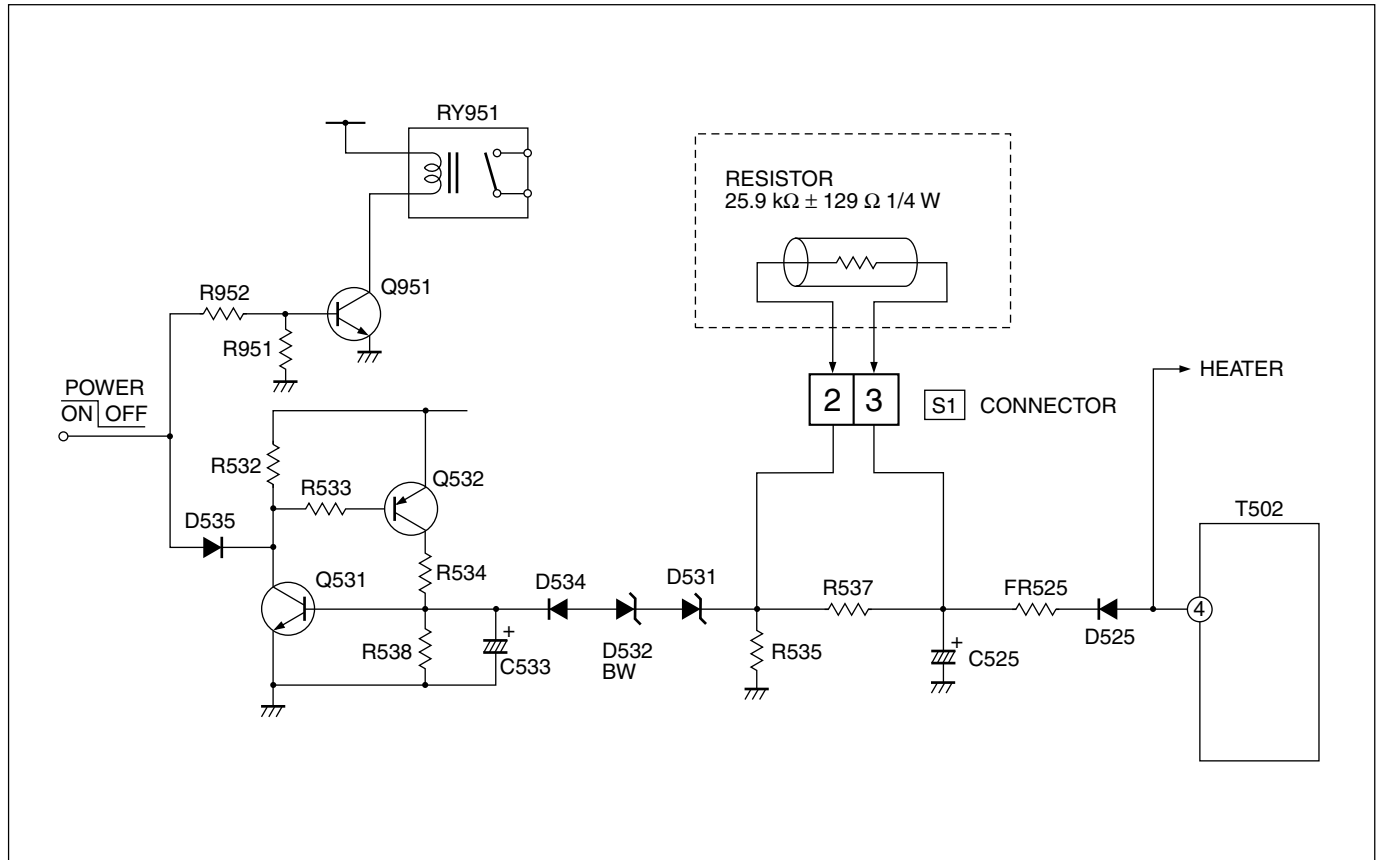

Fig. 1
- (1) Turn the POWER SW ON.
- (2) As shown in Fig. 1, set the resistor (between [S1] connector [2] & [3] ).
- (3) Make sure that the screen picture disappears.
- (4) Temporarily unplug the power cord.
- (5) Remove the resistor (between [S1] connector [2] & [3] ).
- (6) Again plug the power cord, make sure that the normal picture is displayed on the screen.